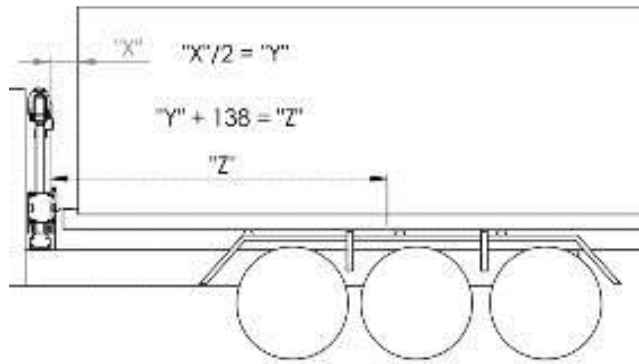

Fig. 3
- a. Measure from the back edge of the tower foot to where the front of the container will be ("X" dimension in figure 3.) Divide this # in half to get Distance "Y" in figure 3.
- b. Add "Y" as calculated in step – "a" to 138" to get dimension "Z" in figure 3.